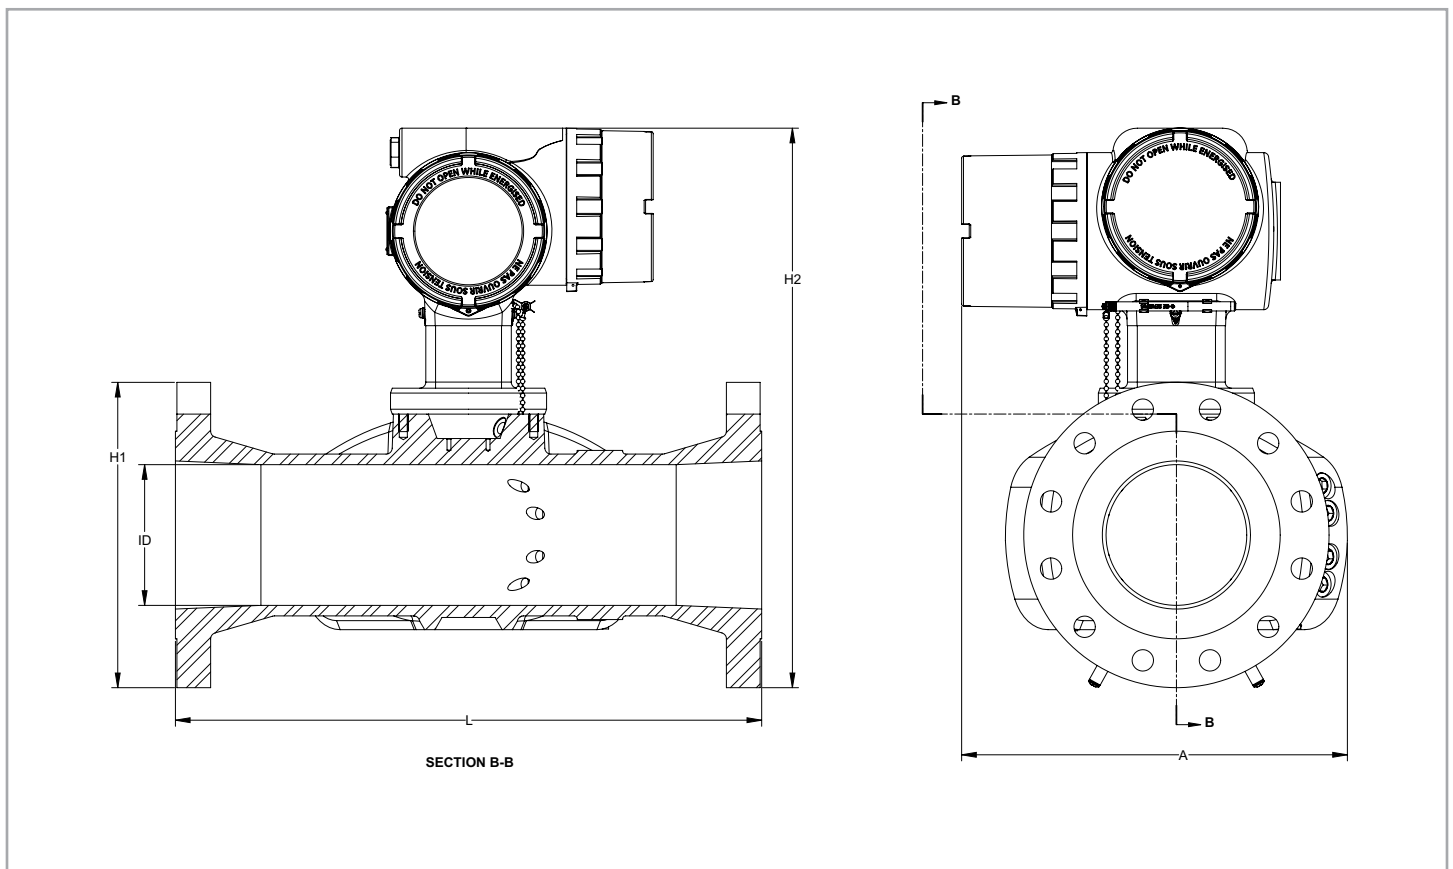
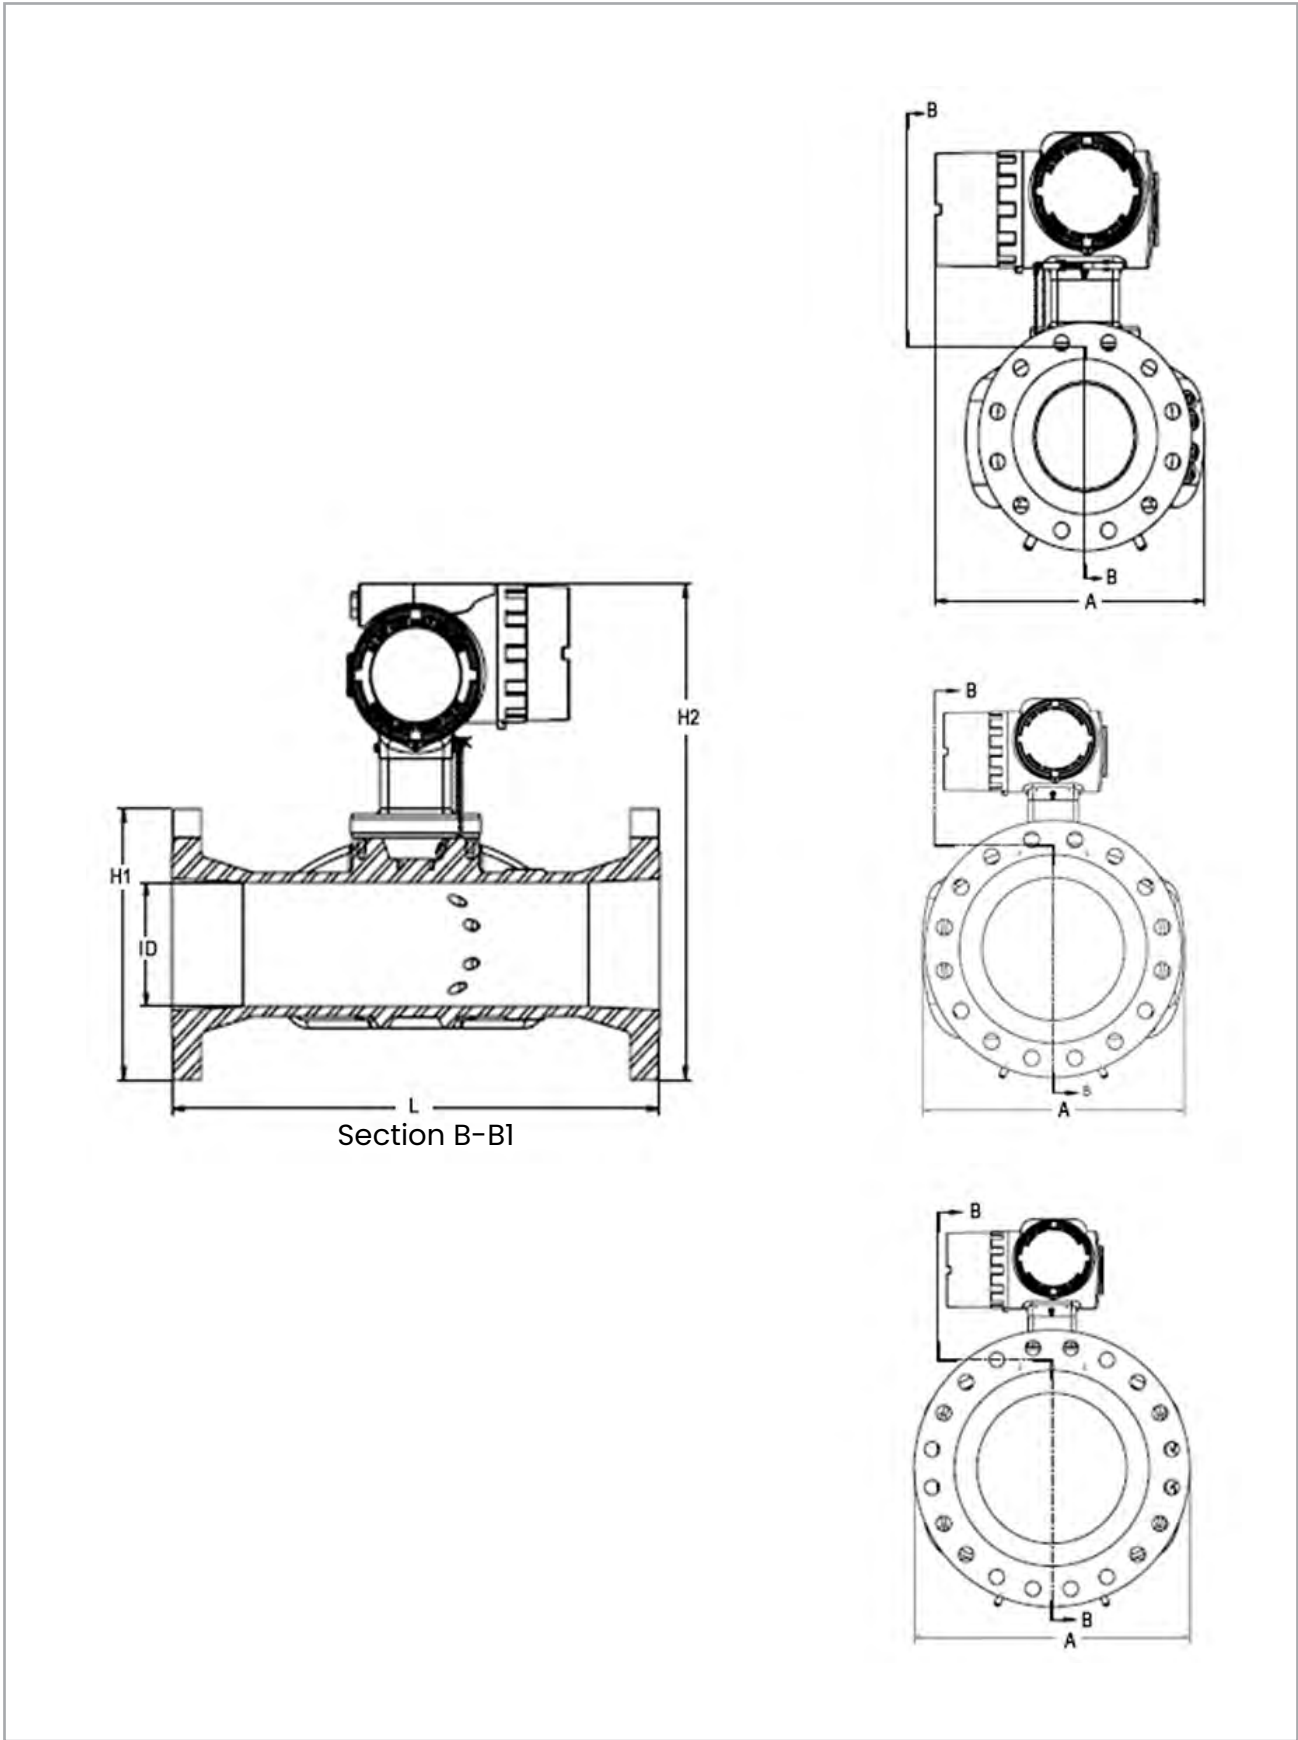

Figure 8: Flowcell assembly for sentinel LCT4 with 3" and 4" pipes
Figure 9: Flowcell assembly for sentinel LCT4 with 6" to 24" pipes
**Note:** Use Figure 8 on page 11 and Figure 9 above to identify L, H2 and A measurements in Table 4 on page 13. The A dimension is the MAX depth of the system. Dimensional extremes as depicted depend on the actual meter and flange size.